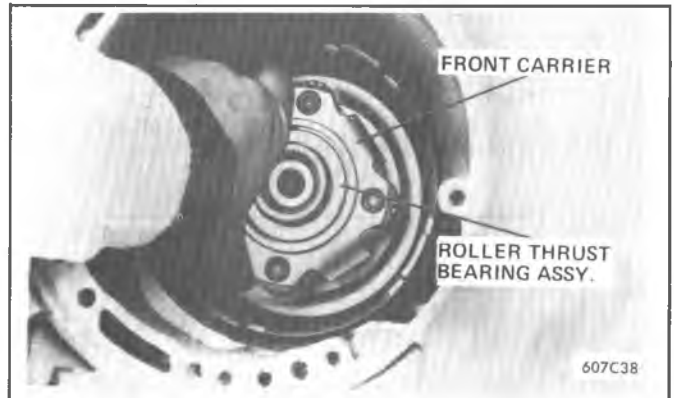

Figure 7A1-104 Installing Front Carrier and Roller Thrust Bearing
9. Install output shaft to turbine shaft, front selective thrust washer, locating in output shaft and retain with petrolatum. (Figure 7A1-109).